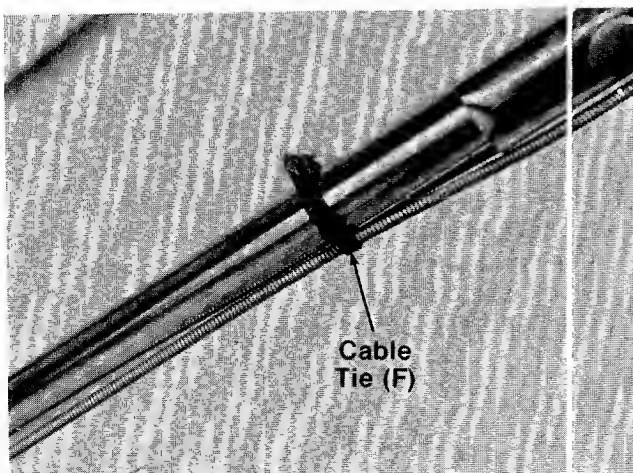

FIGURE 8.
14. Secure throttle control cable and blade brake/clutch cable to upper and lower handles with cable ties (F) provided. See figure 8.